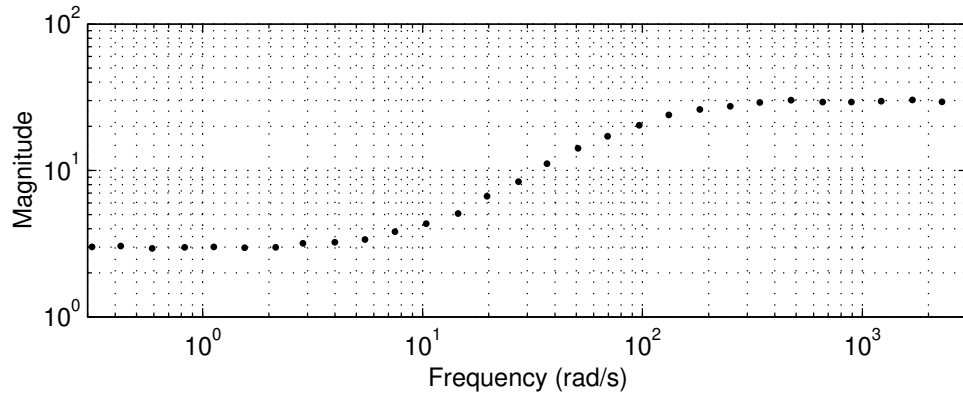

Figure 4 Experimentally obtained Bode magnitude plot in Problem 6
6. By making frequency response experiments on a mechanical system, you have experimentally obtained the Bode magnitude plot shown in Figure 4.